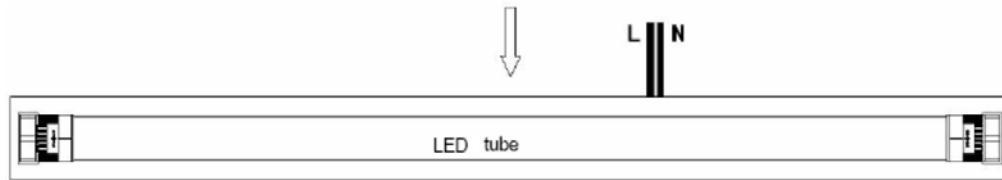

Figure 4
STEP 5: Attach the field applied label to the luminaire. Install ballast cover and diffuser (if applicable) back on the luminaire, and LED tube as shown in Figure 4.